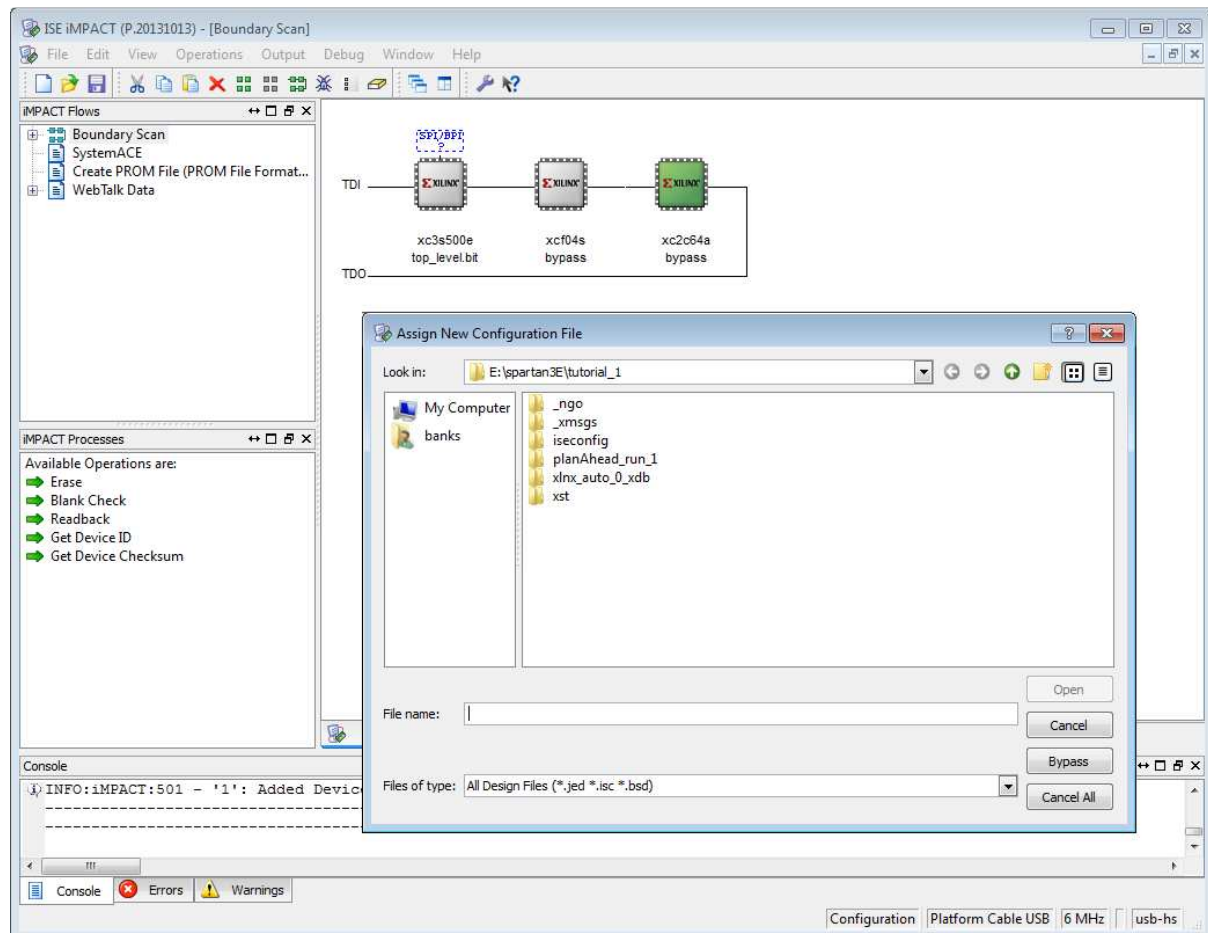

Figure 3.36: iMPACT window, bypassing the xc2c64a.
11. The **Assign New Configuration File** window will appear yet again (Figure 3.36). Again click **Bypass**. This ensures that the xc2c64a is bypassed.